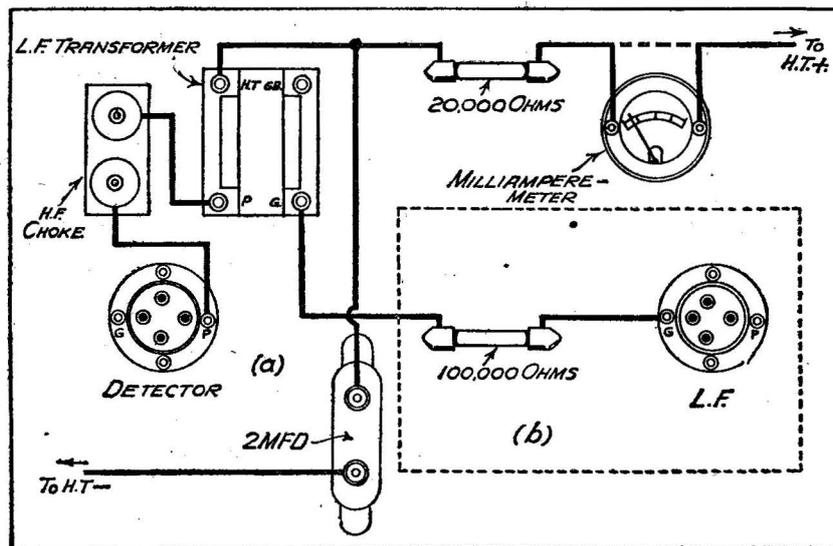

Fig. 3.—A decoupling resistance in the anode lead, and a resistance in the grid lead to cure instability.
and one showing a full scale deflection on 10 milliamps. is most convenient. Measure the anode current to each valve by breaking the connection between H.T. + and the anode component (resistance, transformer primary, choke, etc.) as shown in Fig. 3. The current passing can then be compared with that given on the maker's instruction sheet for the particular H.T. voltage in use. Remember that it is the voltage between the anode of the valve and H.T.— which counts and not the total battery voltage. Too low a current indicates (1) too much grid bias; (2) run-down accumulator; (3) defective valve. In the case of all-mains receivers it might also indicate that the rectifier valve is losing its emission, but the H.T. voltage would then be low. An unduly high anode current indicates (1) insufficient grid bias (probably a burnt-out resistance, if an all-mains set); (2) a break in the grid circuit; (3) valve oscillating; or (4) if an S.-G. or Pentode, screen voltage too high. To check for (3) touch anode terminal with damp finger; the current will change if valve is oscillating. If the anode current fluctuates when signals are not being received there must be a bad contact in either anode or grid circuit. To check, first short-circuit the anode components in turn to find which, if any, is wrong. Then do the same with grid circuit components. When the anode current to every valve is normal and yet reception is impossible it is fairly safe to assume that a component in either the grid or anode circuit is short-circuited.
Another cause of much exasperation is low-frequency reaction. This sometimes manifests itself as a constant whistle which accompanies all reception, and sometimes as a peculiar spluttering noise commonly referred to as "motor-boating." It is more common in older sets and becomes particularly troublesome when the high-tension battery begins to run down. The fault can often be cured by the well-known method of fitting a decoupling resistance in the detector anode lead and by-passing this with a 2 mfd. condenser. Figure 3(a) illustrates this point.